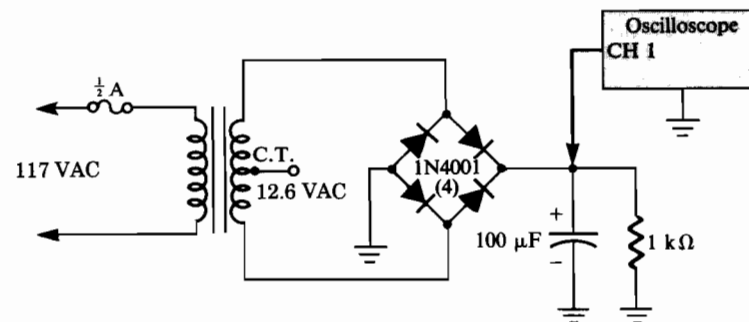

FIGURE 3-1 Schematic diagram of circuit.
1. Wire the full-wave bridge rectifier circuit shown in Figure 3-1, paying careful attention to the polarity of the 1N4001 diodes. You should be very careful to be sure that your connections to the 117-V primary of the transformer are properly protected so that you will not get a shock by accidentally touching them. Furthermore, you should have a 1/2-A fuse on the primary side of the transformer. Note that neither of the transformer's primary leads is grounded, while the center-tapped secondary lead is not used. Also observe the polarity of the 100- μ F filter capacitor.